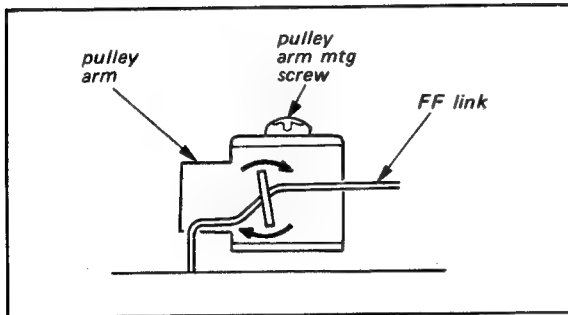

Fig. 7-21 Detail A
2. If the tape pack is too loose, bend the pulley arm in the direction indicated by arrow in Fig. 7-21. Use pliers.
3. If take-up torque is weak, turn the pulley pressure adjusting nut shown in Fig. 7-21 CW 2 to 3 turns.